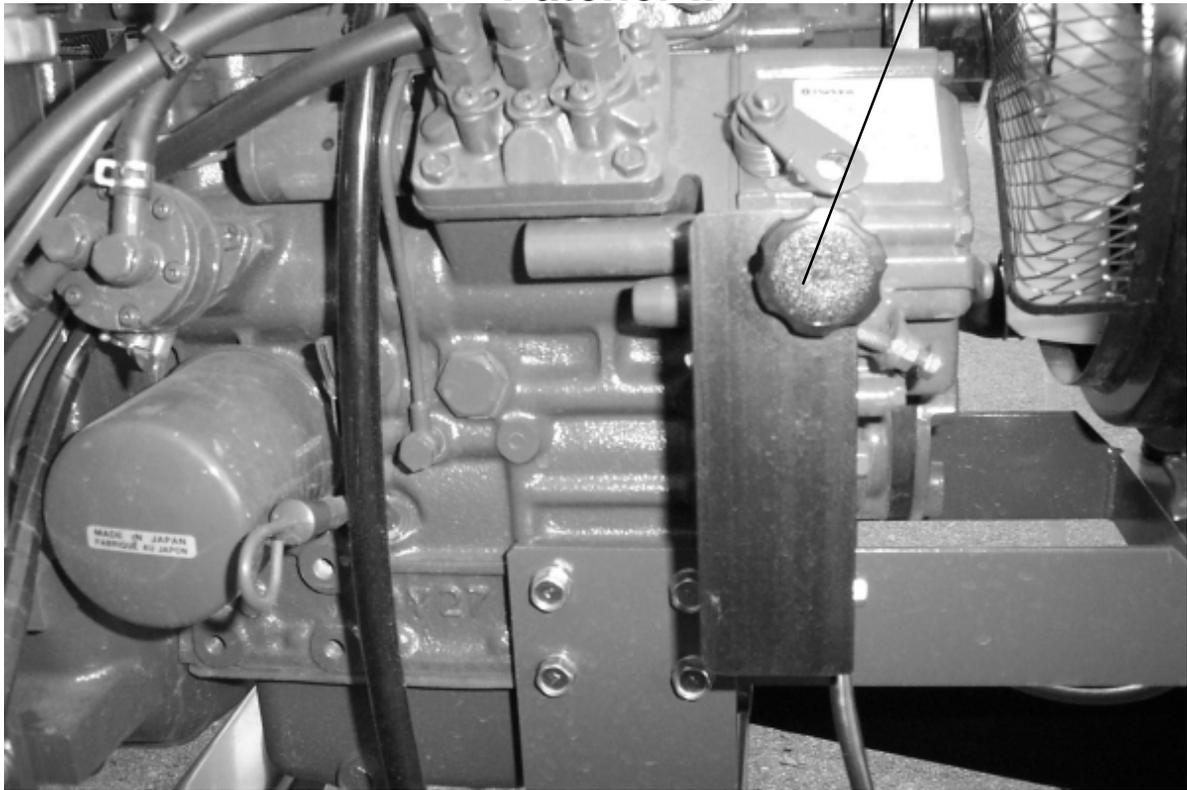

Fig. 5
3. Start the engine. To start the engine, insert the key into the control panel. Turn the key to the preheater first position. Let it warm up a few minutes, then start engine. Warning lights should turn "ON". Turn the key to the second position. The engine should start. Release key when engine is running. Leave at idle for a few minutes. Move throttle lever to set the engine at desired speed (see Fig. 5). Make sure mixer control valve switch is in the neutral position.
3. Idle down the engine with the throttle lever and turn off key. (See Fig. 5)